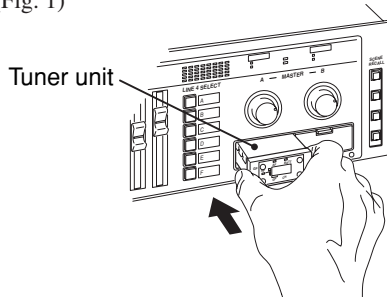

Fig. 1
- 3 Check the up and down sides of the tuner unit, and insert it into the slot. (Fig. 1)